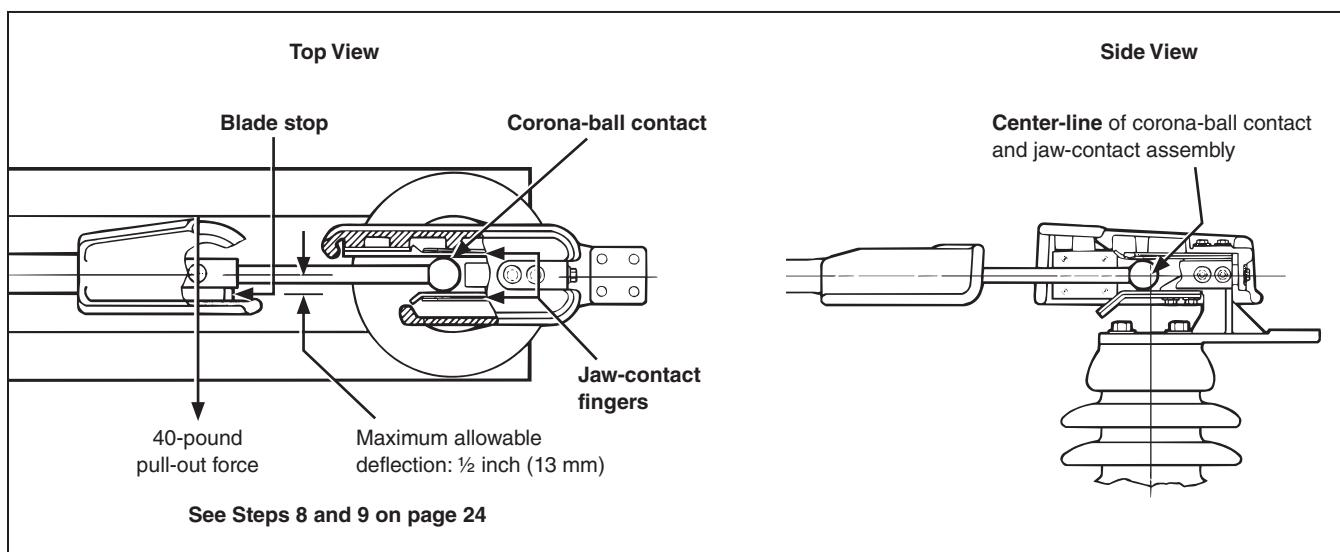

Figure 24. Checking the engagement of the disconnect-blade corona-ball contact with the jaw-contact fingers.
STEP 4. Close the disconnect blade on each pole-unit. The disconnect-blade corona-ball contact must be centered on its jaw-contact fingers, and the blade must touch its stop as indicated in Figure 24.
STEP 7. Check for proper blade closure at the center pole-unit marked "Pole 2." With a pull-out force of approximately 40 pounds applied at the position indicated in Figure 24 on page 22, the blade deflection should be no more than $\frac{1}{2}$ -inch (13 mm).
STEP 8. Check for proper blade closure at the two outboard pole-units marked "Pole 1" and "Pole 3." With a pull-out force of approximately 40 pounds applied at the position indicated in Figure 24 on page 22, the blade deflection should be no more than $\frac{1}{2}$ inch (13 mm).